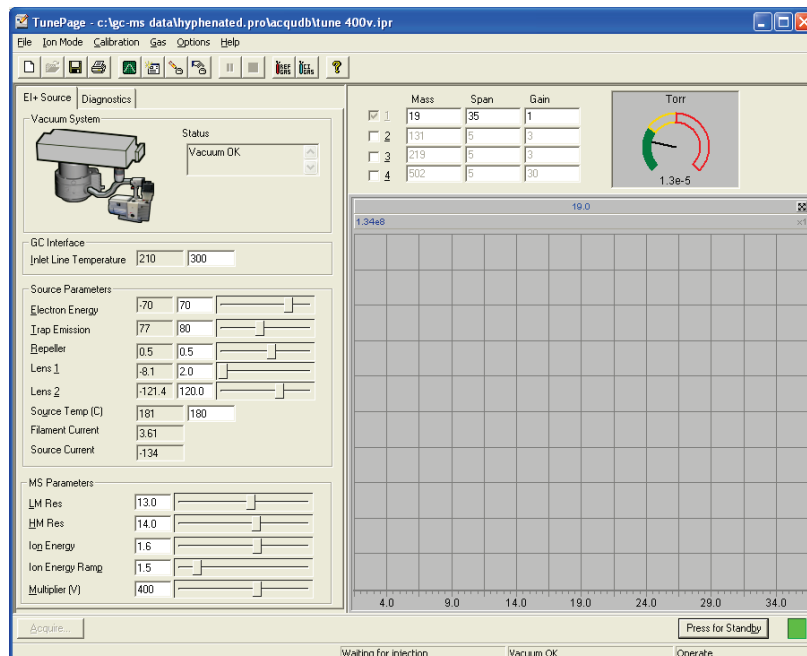

Figure 71 Tune page in TurboMass
1. Click on the icon  to display the Tune page (Figure 71).